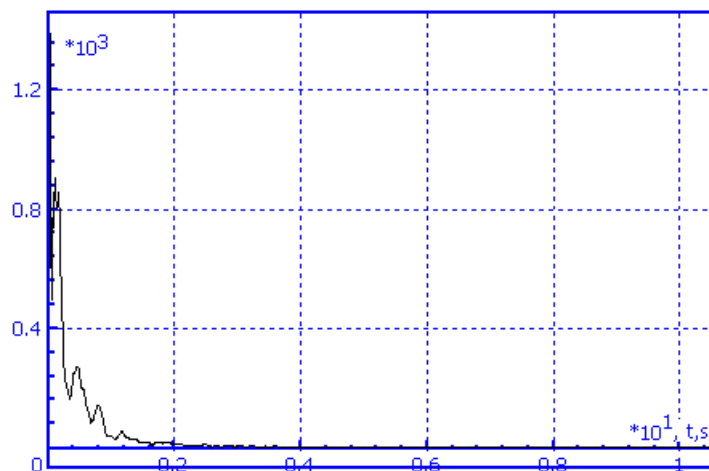

Figure 2.5. Plot: kinetic energy vs. time
3. Run the simulation by the **Integration** button in the bottom of the inspector. In our test the energy value decreases to the value lower than 1 J after 7 seconds of simulation, Figure 2.5, i.e. the TV is nearly the equilibrium.